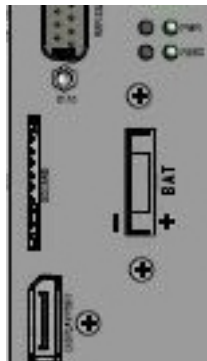

Fig. 52: Lithium battery polarity
5. Pay attention to the polarity of the battery (as shown in Fig. 52).